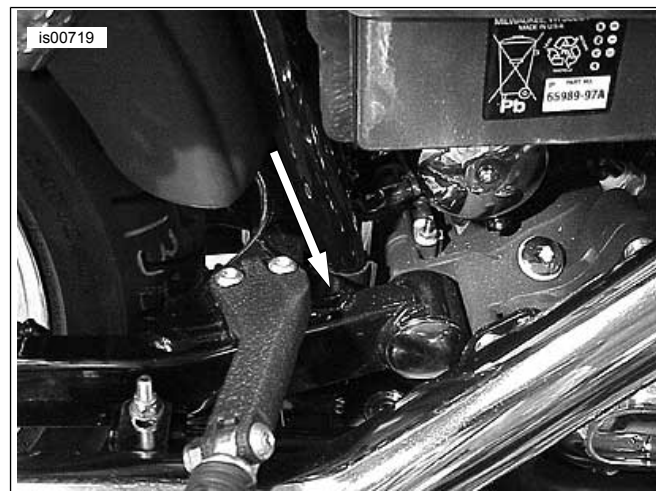

Figure 8. Rear Leverage Points (Right Side Shown, Left Side Similar)
3. See Figure 8. Using a suitable tool wrapped in a clean, soft cloth, between the swingarm and frame, as indicated by the arrow, move the rear wheel to the left or right, as necessary, to provide clearance for the gauge. Tighten the rear rubber mount bolts while maintaining pressure on the tool. Tighten bolts to 30–37 N·m (22–27 ft-lbs).